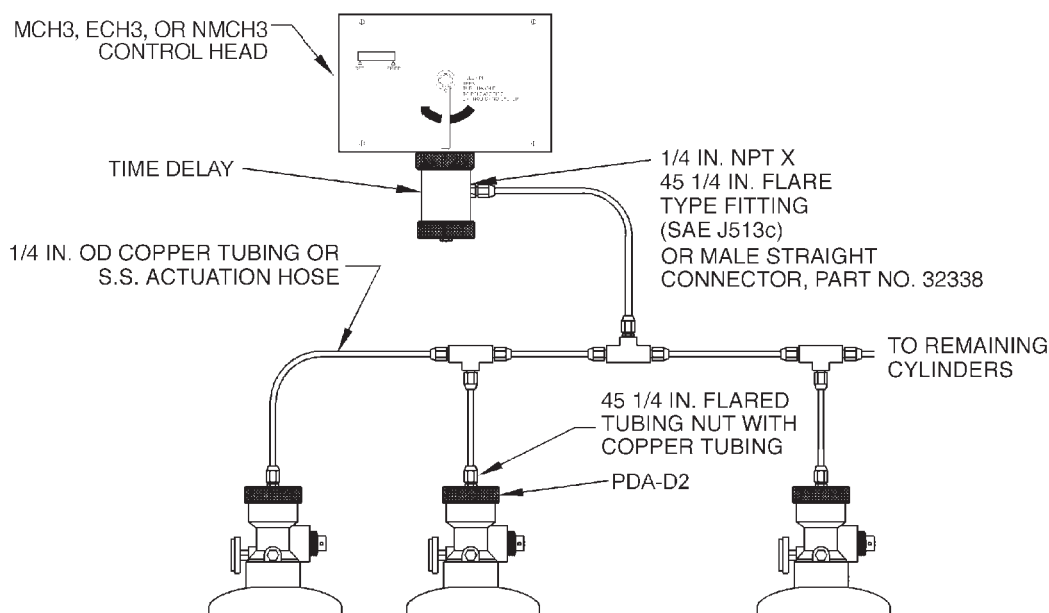

Figure 4-3. Multiple Cylinder Actuation Using Model MCH3/ECH3/NMCH3 Control Head
- 1/4 in. NPT x 45° 1/4 in. flare type fitting (conforming to SAE J513c) or male straight connector (Part No. 32338) must be screwed into the side of the time delay. Also, a Model PDA-D2 Pneumatic Discharge Adaptor must be installed on the valve of each agent cylinder. Pneumatic tubing or stainless steel actuation hose is then used to connect the control head to the PDA-D2 of each agent cylinder valve. **See Figure 4-3.**